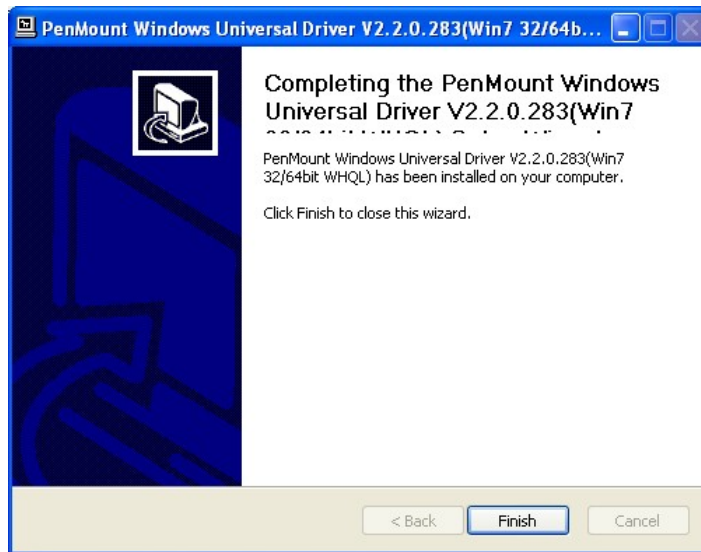

Figure 4-6: Finish Installation
Step 10: When the installation is complete, the complete screen appears. See **Figure 4-6**.